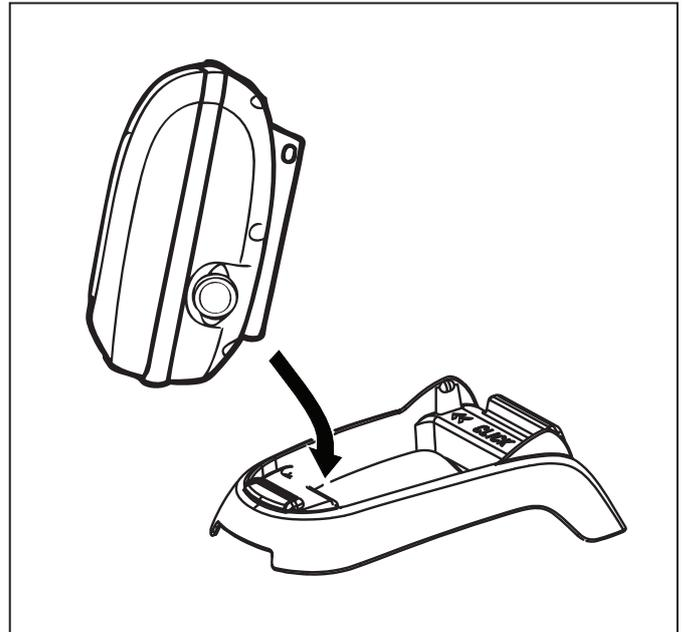

Figure 12. Attach Control box to Base
1. Align the bottom of the control box with the notch in the base (see Figure 12).
1. Unscrew the protective cap for the power cable from the side of the control box by turning counter-clockwise (Figure 12).